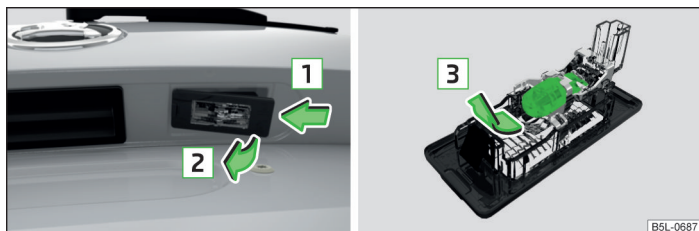

Fig. 201 Remove the number plate light/replace the bulb
- Push in the lamp in the direction of the arrow **1** » Fig. 201.